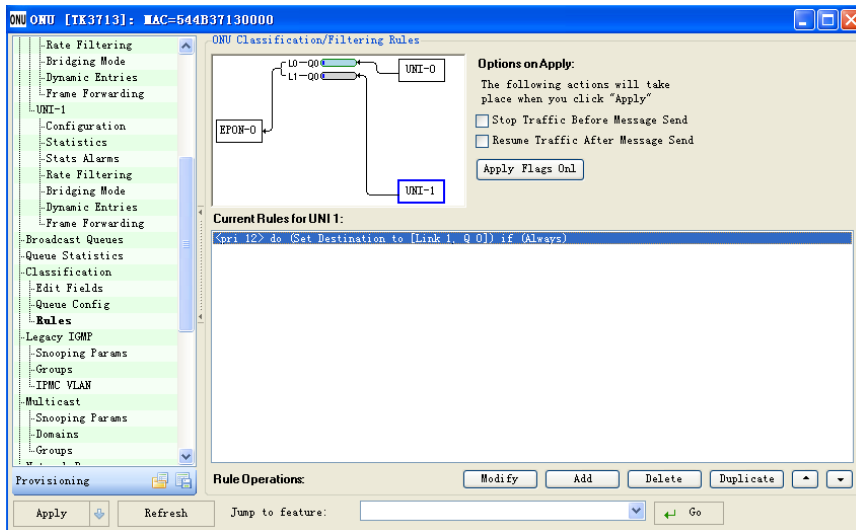

Figure 8-15 New Rule Display
- 3) For the Action part, change the Set Destination Forward as Set Destination with the drop-down arrow; click OK and display the new setting in the main window shown in the Figure 8-15. The current configuration of the UNI-0 port is the flow which discards the uplink unknown MAC address.